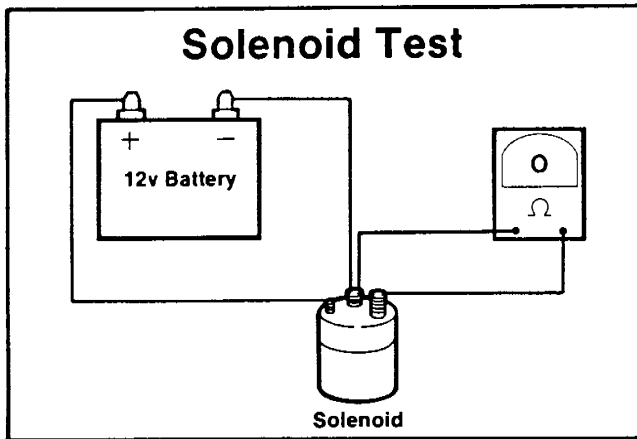

Figure 5-14A. Testing Solenoid Contacts
- See Figure 5-14A. Connect the leads from a 12 volt battery to the small terminal and the short, large terminal. The solenoid should engage with a click.